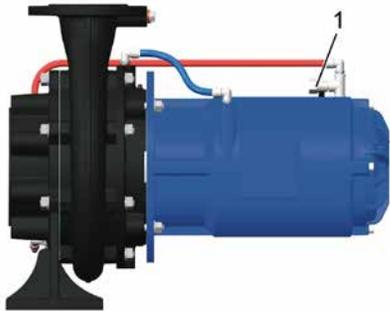

Fig. 43 Opening the ball valve
2. Open the ball valve (Fig. 43/1).